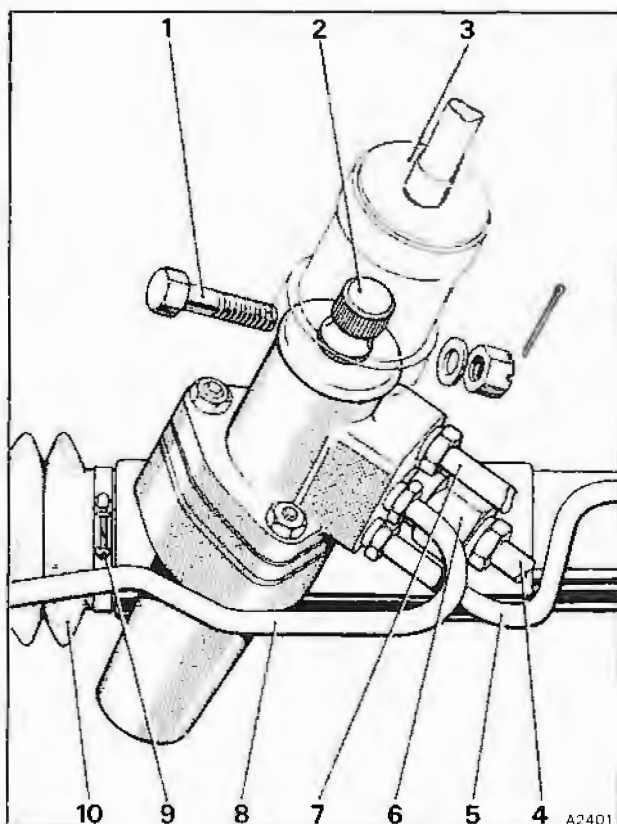

Fig. N2-2 Spool valve and pinion housing
5. Remove the split pin, castellated nut, and bolt securing the lower linkage to the pinion shaft splines (see fig. N2-2).